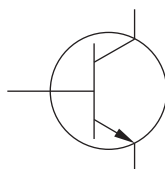

Fig. 12.2
- (ii) Fig. 12.2 shows the symbol for an NPN transistor.